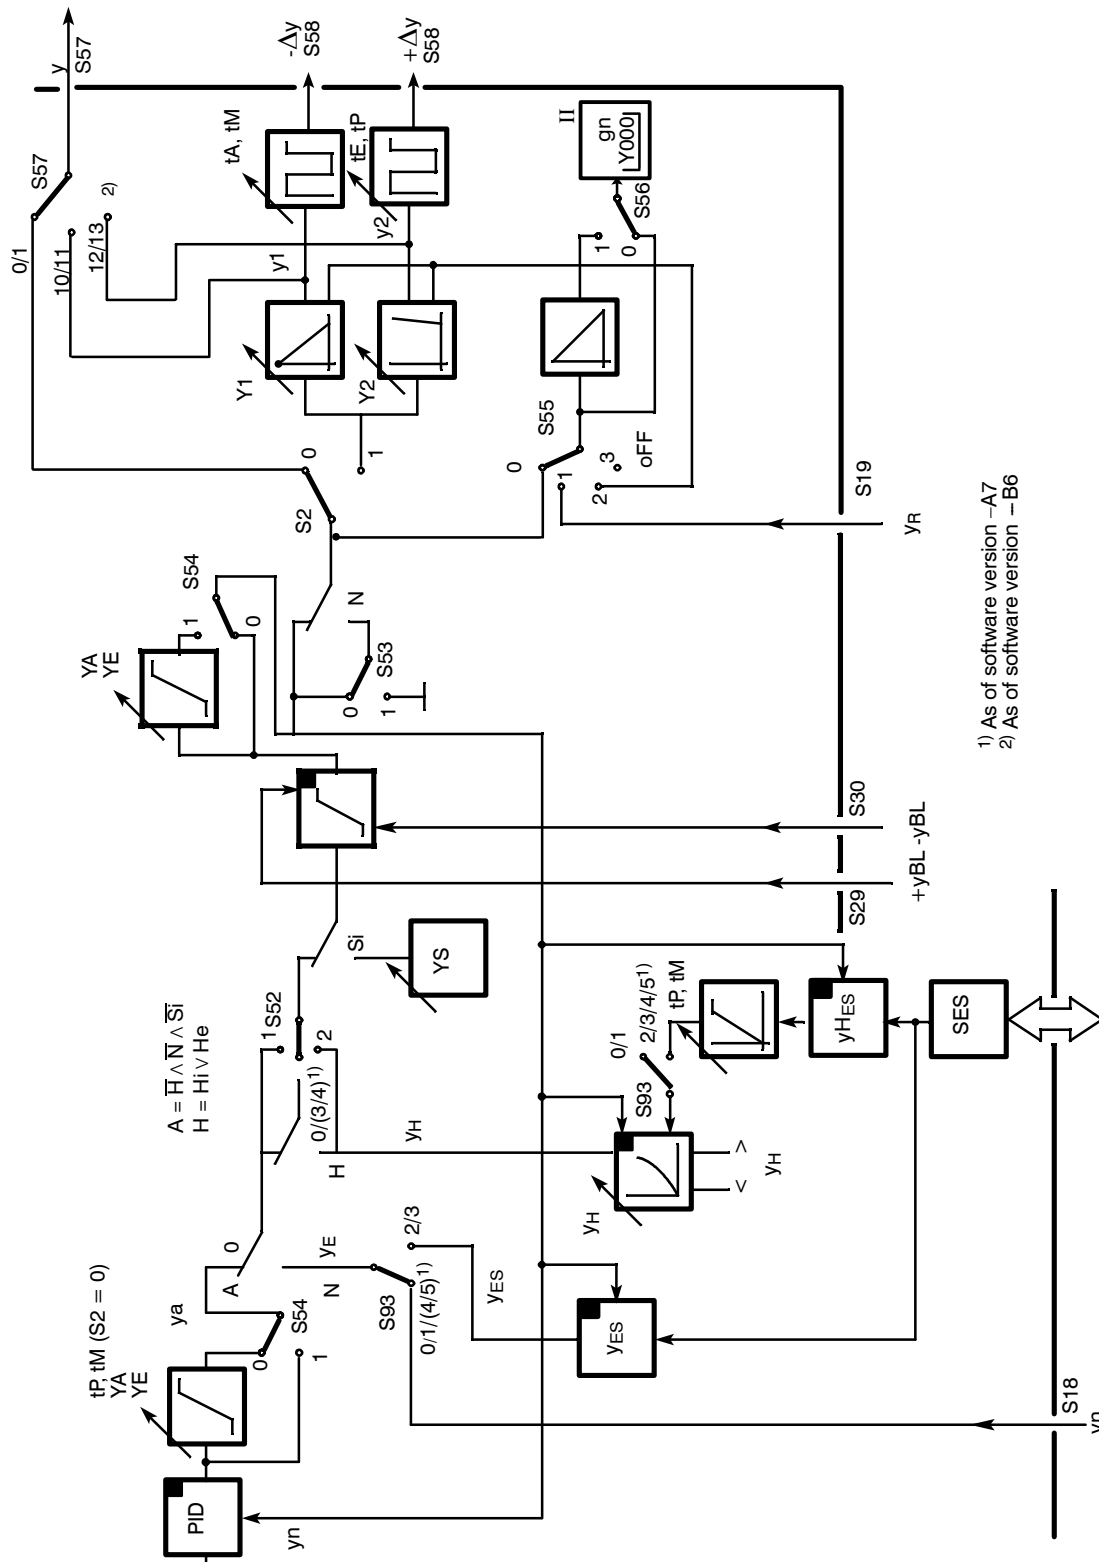

Figure 3-25 Block diagram K-controller S2 = 0 or two-position output S2 = 1
- **S2=0: Continuous (K) controller** (figure 3-24, page 109 and figure 3-25, page 110)
This output structure is identical to the K-output structure in its switching options (see figure 3-24, page 109 and figure 3-25, page 110).